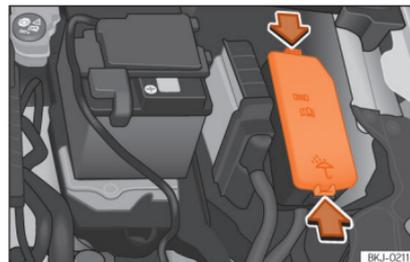

Fig. 52 In the engine compartment: fuse box cover.
- Press the locking tabs to release the fuse box cover »» Fig. 52.